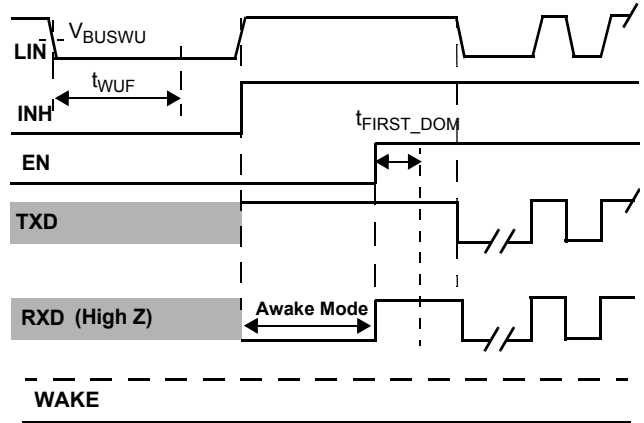

Figure 16. LIN Bus Wake-up with TXD High
- See Figure 16, 19, and Figure 20